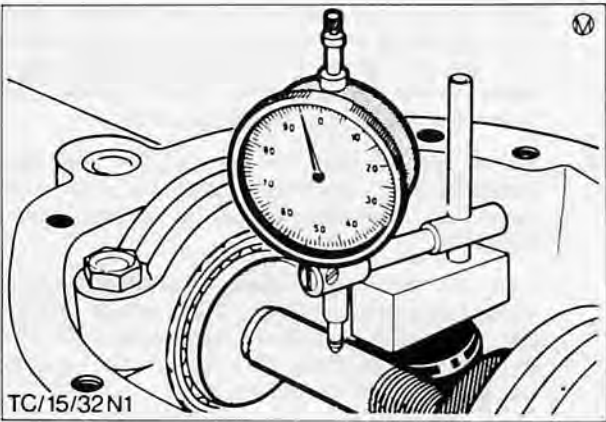

Fig. 114. Dial indicator reading 95 – shim under master pinion too thick
22. Place mounting block with dial indicator on end of master pinion in the centre and move plunger of dial indicator slowly across gauge bar. Observe dial indicator and stop at the precise point where the pointer changes direction. Repeat this measuring operation several times and ensure great precision, Fig. 114.
NOTE: If dial indicator pointer now stands at 95 for example, the shim under the master pinion is 0,05 mm too thick. If the pointer changes direction at 4 for example, the shim is 0,04 mm too thin. (This assumes a dial indicator where pointer moves clockwise when plunger is pressed in), Figs. 114/115.